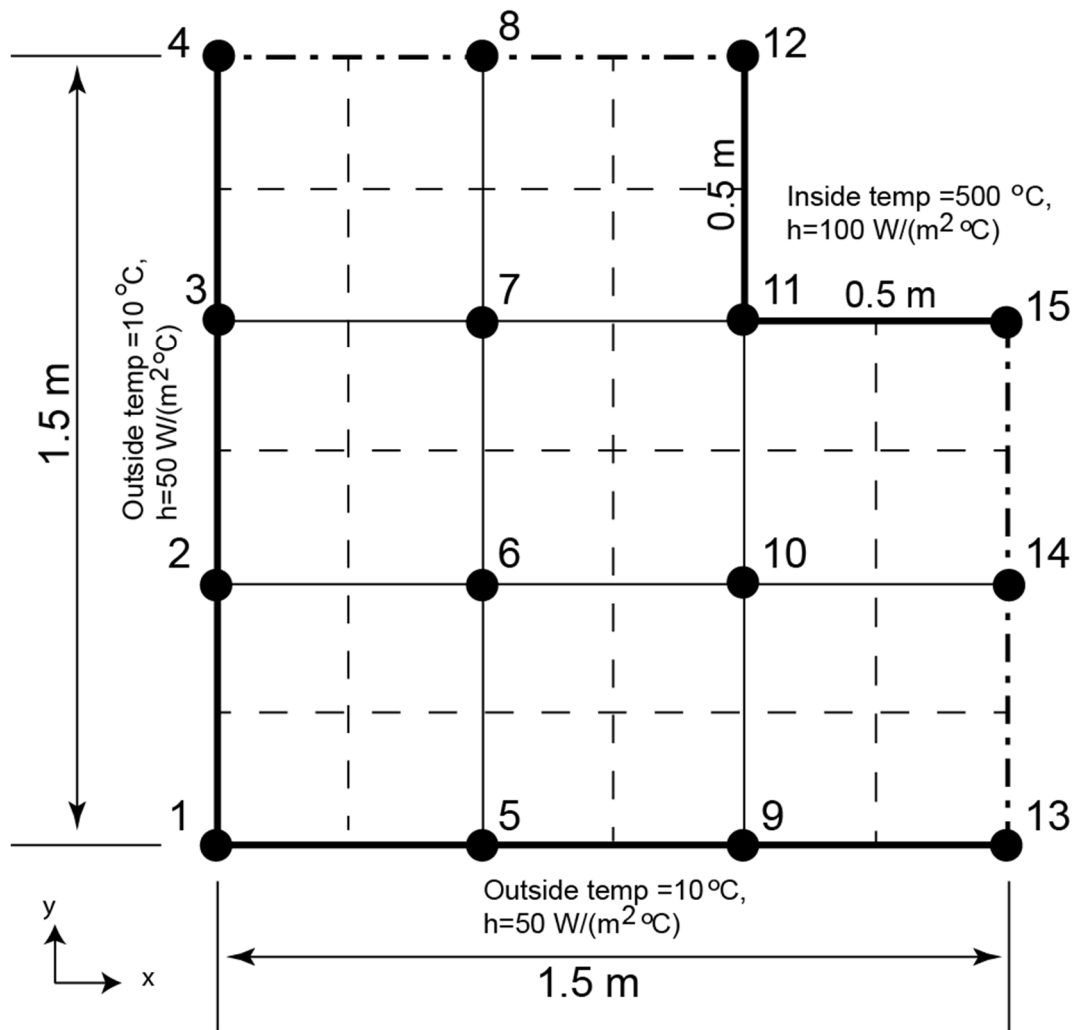

Figure Q.1
1. **Figure Q.1** shows a symmetrical quarter of the cross-section of a tall chimney stack. In usual notations, two-dimensional transient heat transfer in this situation is governed by:
In this problem generation $g = 0$. The thermal conductivity of the material of this chimney is $k = 10 \text{ W/(m}^\circ\text{C)}$. Thermal diffusivity of the material is $\alpha = 1 \times 10^{-6} \text{ m}^2/\text{s}$. At time $t = 0$, the chimney is at a temperature of 10°C . Suddenly ($t > 0$) the inside of this chimney is exposed to an exhaust gas stream which flows at a temperature of 500°C , and the inside surface convective heat transfer coefficient is $100 \text{ W/(m}^2\text{ }^\circ\text{C)}$. The outside of the chimney is exposed to an ambient temperature of 10°C with a convective heat transfer coefficient of $50 \text{ W/(m}^2\text{ }^\circ\text{C)}$. A suitable grid for the calculation of temperature of this cross-section is also shown in **Figure Q.1**. Nodal spacing is equal in x and y directions.